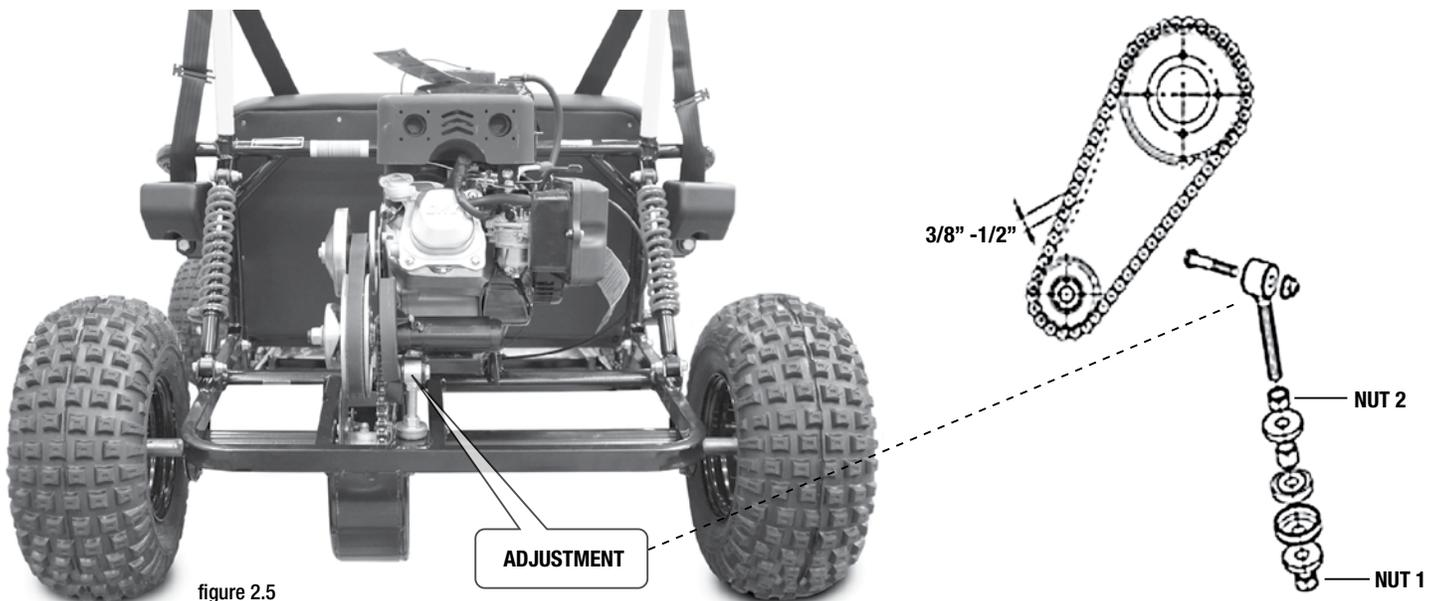

figure 2.5
D. Chain Lubrication and Adjustment (see figure 2.5)